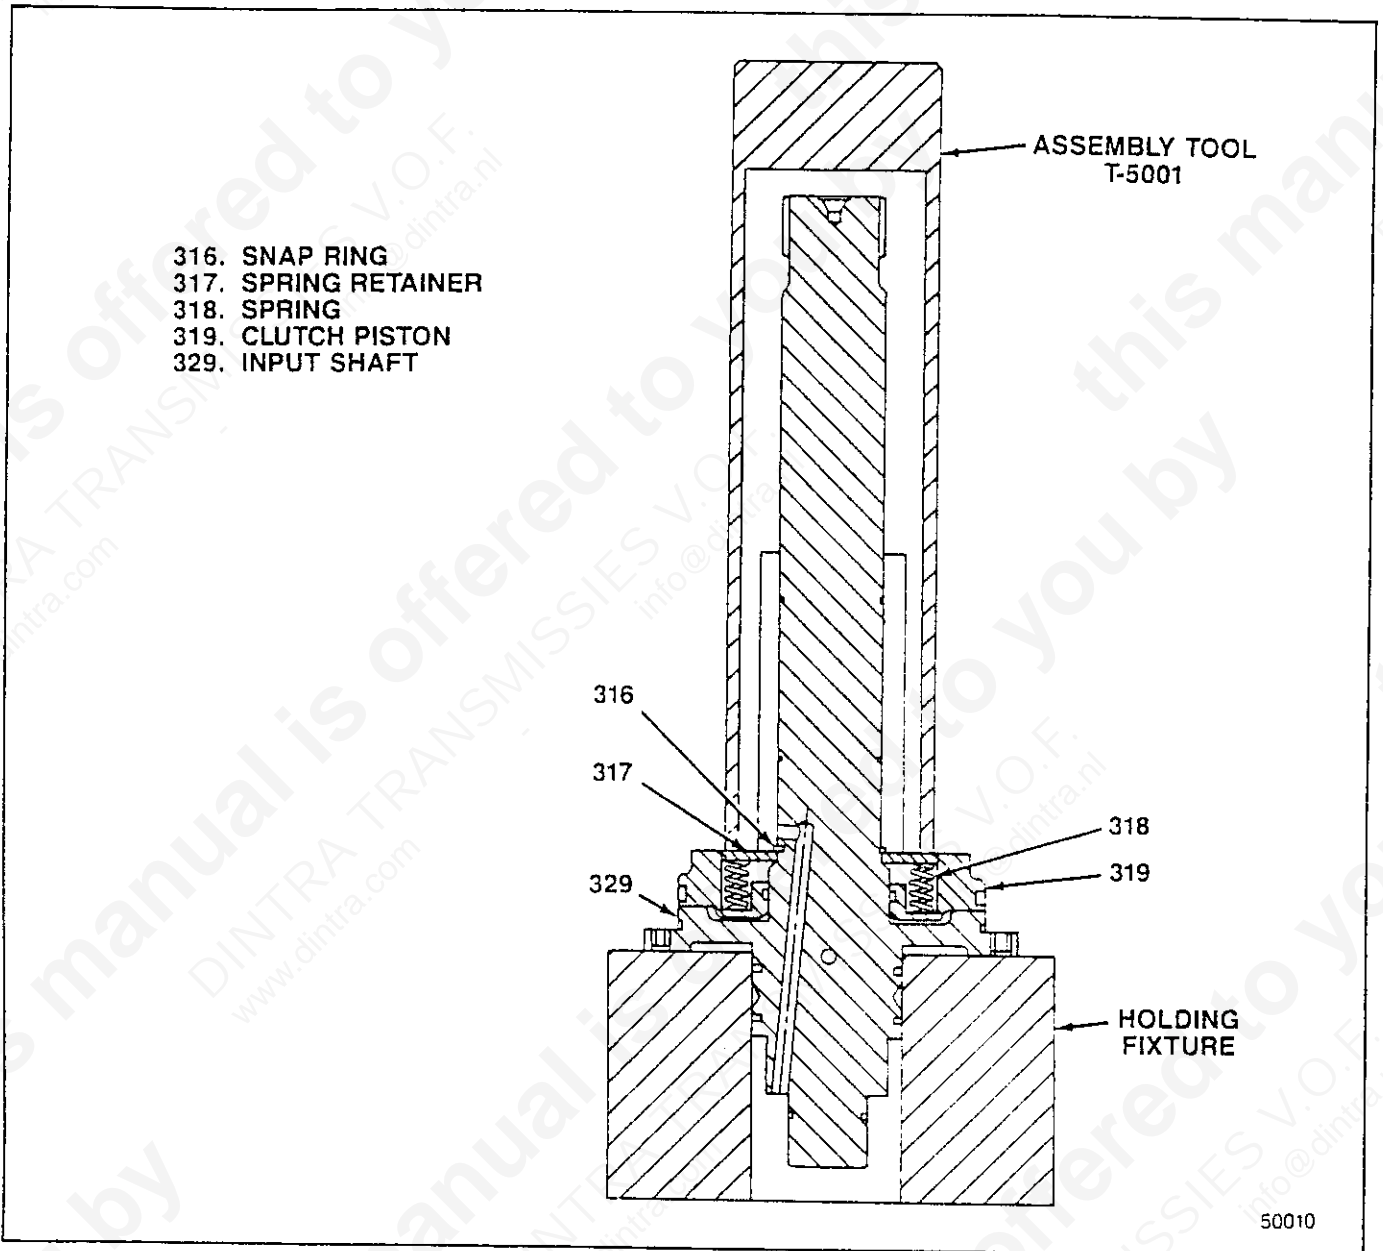

Figure 5-6. Installing Snap Ring
4. Support input shaft with piston, o-rings and seal rings (319 through 329) in suitable holding fixture (see figure 5-6) in arbor press.
5. Install sixteen springs (318) in holes in clutch piston (319). Install spring retainer (317). Expand snap ring (316) and slide onto shaft up against thrust washer.
6. Using assembly tool T-5001, press down on spring retainer (317) to compress springs (318) and provide access to shaft groove for snap ring (316). Install snap